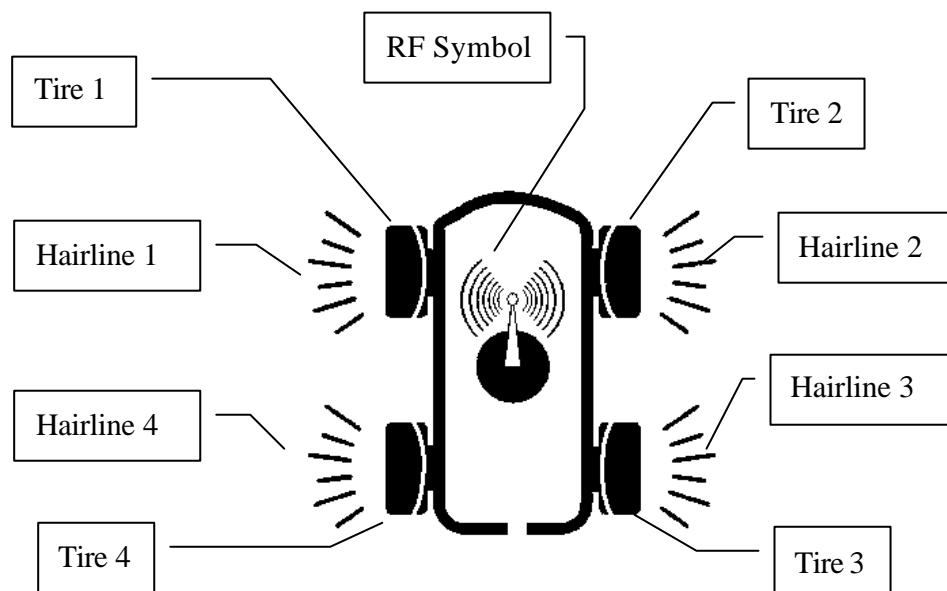

Figure 3 Detail description of Status display
**Status display:** display communication condition with all tires graphically. Figure 3 shows detail symbols of Status Display and their names in this manual.